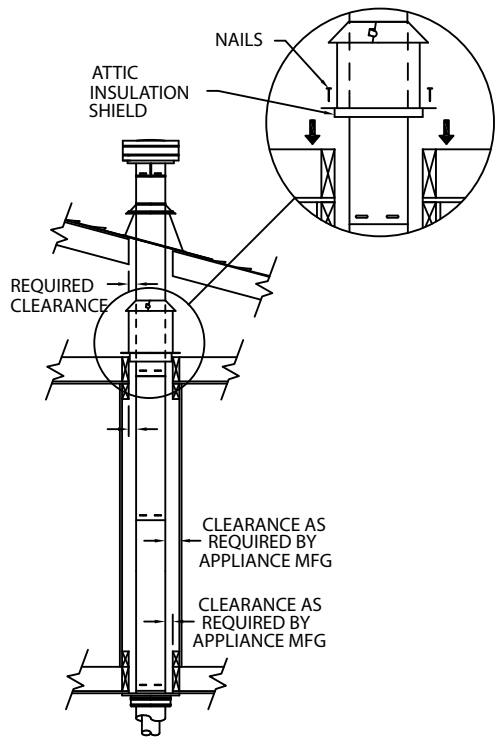

Figure 19
(1) For multi-story vertical installations, a Ceiling Firestop is required at the second floor, and any subsequent floors (**Fig. 19**). Refer to **Table 1, page 8**. Cut and frame a square opening for installation of the Ceiling Firestop.
(2) If Vent passes through any occupied areas above the first floor, including closets and storage spaces, it must be enclosed. The enclosure may be framed and sheetrocked with standard construction materials, but required clearances to combustibles must be maintained. Consult the appliance manufacturer's installation instructions for the minimum allowable clearance between the outside of
the vent pipe, and the combustible surfaces of the enclosure. Do not fill required air spaces with insulation. **(3)** If venting system passes through an attic space the Attic Insulation Shield or a chase enclosure must be installed to prevent contact between Pipe Sections and the insulation or other debris. For the Attic Insulation Shield, nail the base to floor of attic and adjust shield for appropriate insulation level, then attach the collar at the top of assembly (**Fig. 19**). For a chase enclosure, it may be constructed out of sheetrock or similar building materials and framed around the support box or the pipe, maintaining the clearance to combustibles as required by the appliance manufacturer. For vaulted ceilings a chase enclosure must be constructed as the Attic Insulation Shield can not be installed.